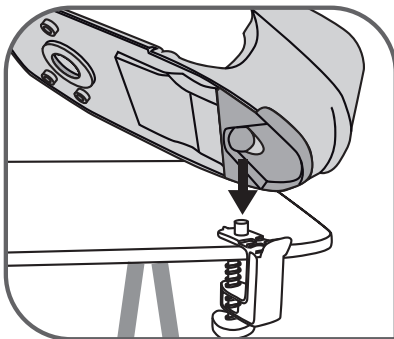

Fig.2
- Click the base onto the EasyFix System – **fig.2 and 3**.